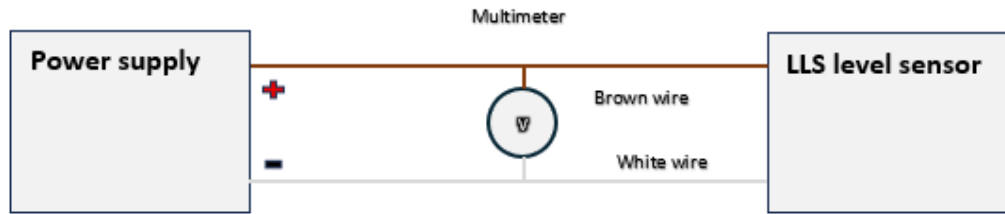

Fig. 1 Connection Diagram
3. Assemble the connection circuit according to «Fig. 1 Connection Diagram»